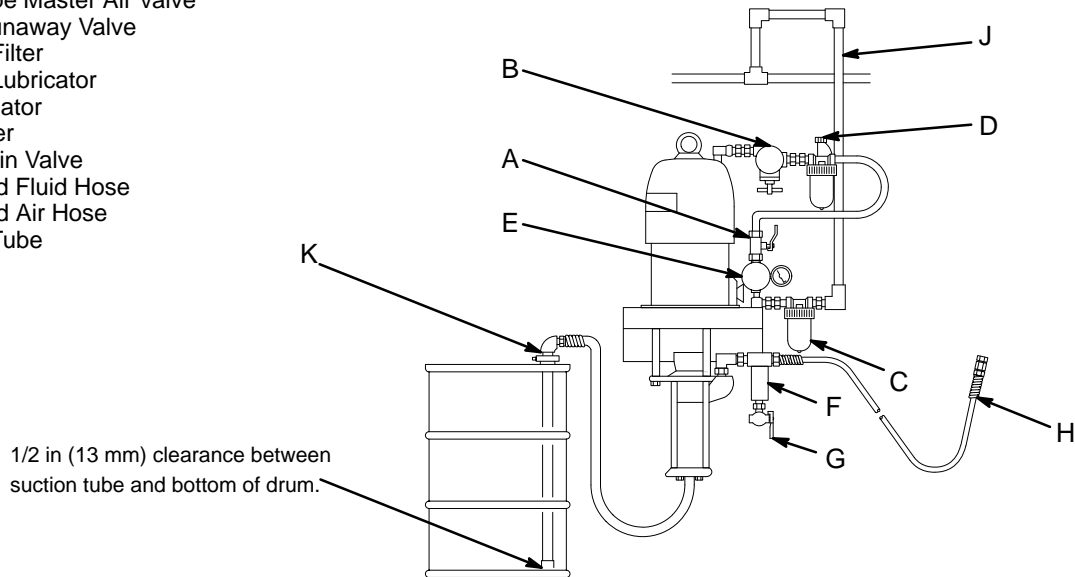

Fig. 2
The typical installation shown in Fig. 2 is only a guide to selecting and installing required and optional accessories. For assistance in designing a system to suit your needs, contact your Graco representative.
Install the accessories in the order shown in Fig. 2. Closest to the pump air inlet, install a pump runaway valve (B), which senses when the pump is running too fast and shuts off the air supply to the motor. For automatic air motor lubrication, install an air line lubricator (D). Install a bleed-type master air valve (A) within easy reach of the pump. Next, install an air regulator (E) to control air to the motor and pump speed. Furthest from the pump inlet, install an air line filter (C) to remove harmful dirt and moisture from the compressed air supply.